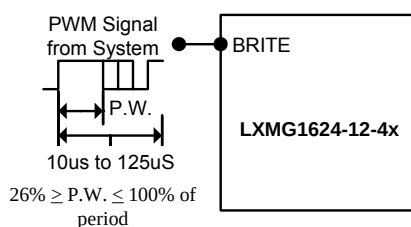

Figure 1A – PWM Brightness Control
- The brightness control may be a voltage output DAC or other voltage source, a digital pot or 20K manual pot. The inverter contains an internal 10K pull-up to 3V to bias the pot, add a 2.7K to 3.9K to set the lower threshold voltage. A 3.3V Logic Level PWM signal from a micro-controller may also be used as shown in Figure 1A.